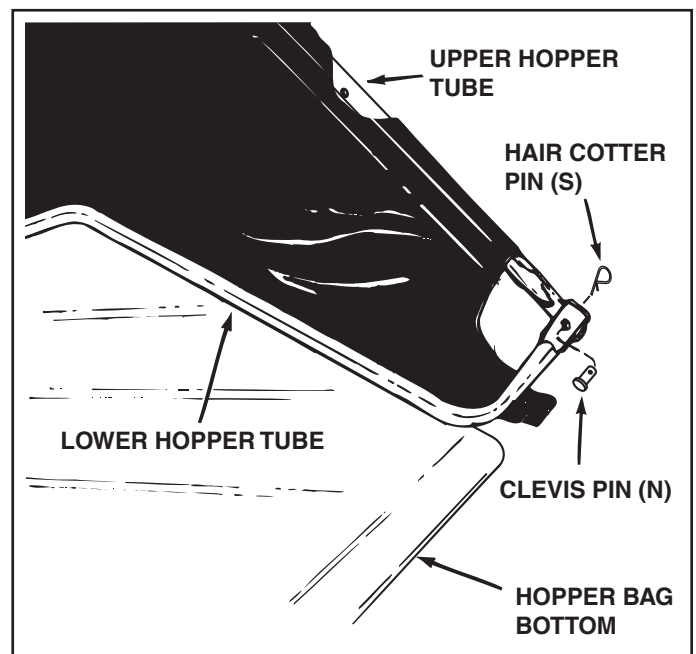

FIGURE 13
- Place the assembled lower hopper tubes into the bottom of the hopper bag and then slide the tubes to the back of the bag. See figure 13.
- Attach the ends of the lower hopper tubes to the **inside** of the upper hopper tubes using two clevis pins (N) inserted from the inside, and two hair cotter pins (S). See figure 13.